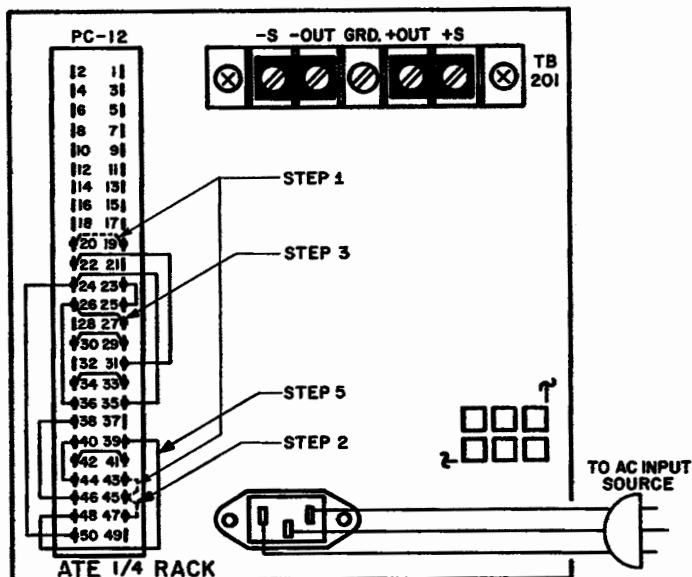

FIG. 2-6 REQUIRED STEPS FOR ATE
- 2-17 **MANUAL CHANGE-OVER, SLOW/FAST MODE.** The ATE power supply is normally delivered for operation in the "slow" mode. By changing jumper connections at the rear of the power supply, the user can quickly convert from the "slow" mode to the "fast" mode or vice versa (See FIG. 2-6).
- 2-18 **PRECAUTIONS.** The output capacitor, and to a lesser extent, the feedback capacitor of a power supply, control the programming speed and the current mode recovery time. The removal of these capacitors in the fast mode results in greatly improved power supply performance in these areas. The power supply's dynamic stability, however, is reduced, making the output sensitive to the load phase angle. For this reason, the load presented to the power supply in the fast mode must not contain excessive capacitance (limit: 1000pF). Also, with the output and main feedback capacitors removed, there will be an increase in the output noise, mainly high frequency noise and pick-up, so that external shielding of programming leads and good grounding practices assume added importance in the fast mode operation. See also note in FIG. 2-6.